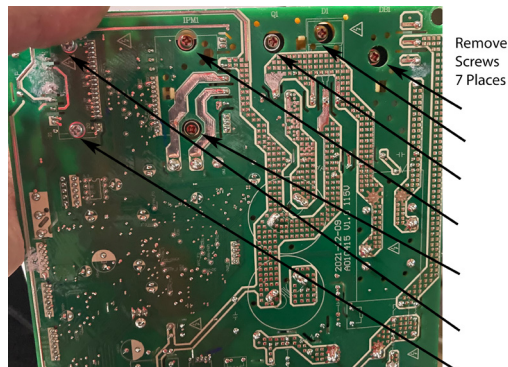

Figure 607
8. Remove Radiator from PCB if required. See Figure 607.